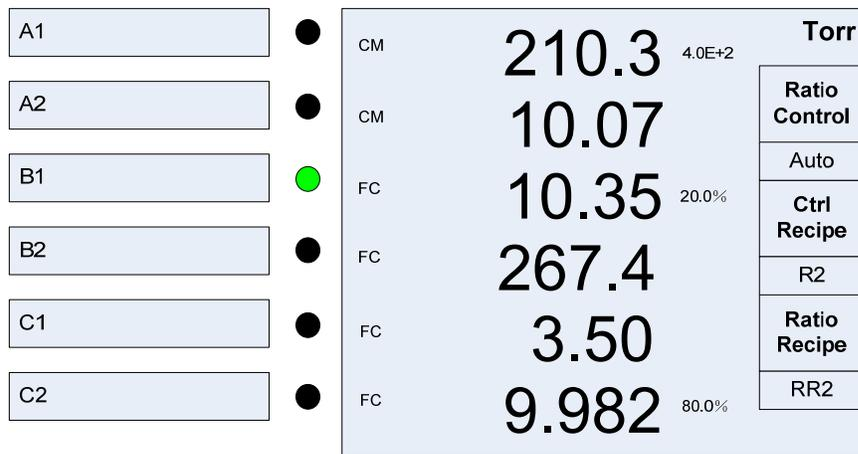

Figure 6-21 Front Panel Display with the Dialog Box for Ratio Control using Multiple MFCs
- Press the Pressure Control  key (you may need to press this key 2-3 times) until Ratio Control dialog box is displayed as shown in Figure 6-21;
When a valid ratio PID control recipe is selected, the pressure set point (P set point in Figure 6-19) will be displayed on the front panel (such as 4.0E+2 as shown in Figure 6-21) to indicate the gauge being used for pressure control, and assist the comparison between the real pressure reading and the set point value.
- Select the appropriate ratio recipe. Once a ratio recipe is selected, the corresponding gas concentrations (such as 20.0% for B1, and 80.0% for C2 as shown in Figure 6-21) associated with the ratio control channel will be displayed to provide the indication of active ratio channel and corresponding ratio settings.
Both the PID and Ratio recipes (such as R2 and RR2 as shown in Figure 6-21) cannot be changed when either Auto or Manual ratio control is running.
To terminate a PID ratio control using multiple MFCs, unlike the signal MFC PID control, you cannot terminate the PID ratio control by stopping the individual channel control. You must switch either Manual or Auto ratio control to OFF to terminate the ratio control via the dialog box for ratio control as shown in Figure 6-21.